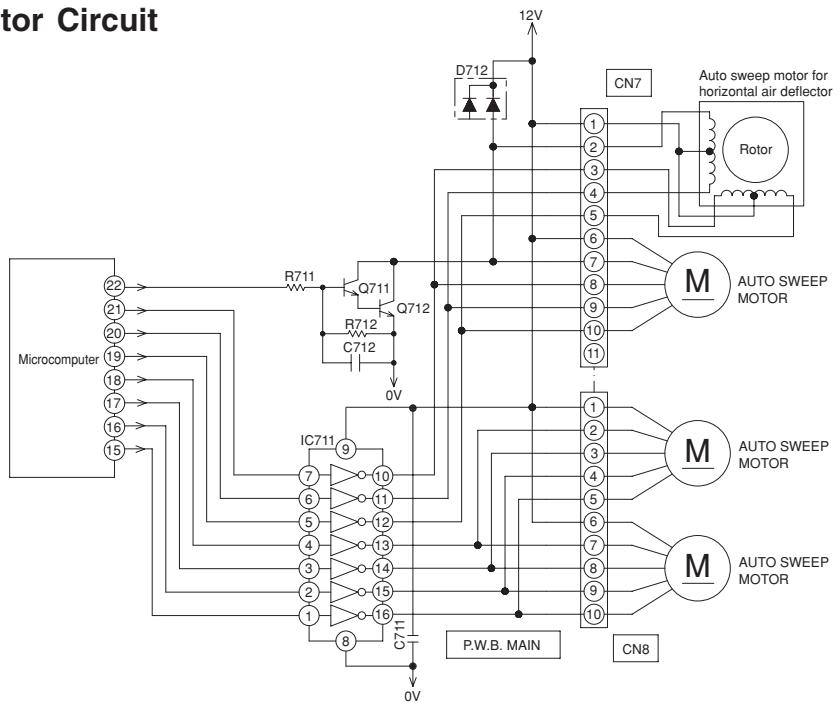
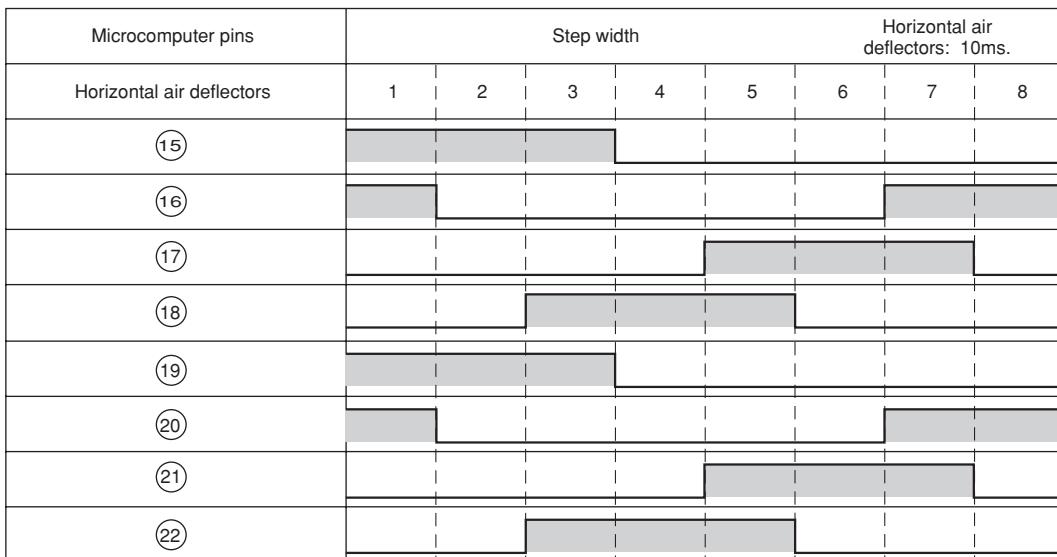

Fig.4-1
Fig.4-2 Microcomputer Output Signals
- Fig. 4-1 shows the Auto sweep motor drive circuit; the signals shown in Fig.4-2 are output from pins (15) – (22) of microcomputer.
- As the microcomputer's outputs change as shown in Fig.4-2, the core of the auto sweep motor is excited to turn the rotor. Table 4-1 shows the rotation angle of horizontal air deflectors.